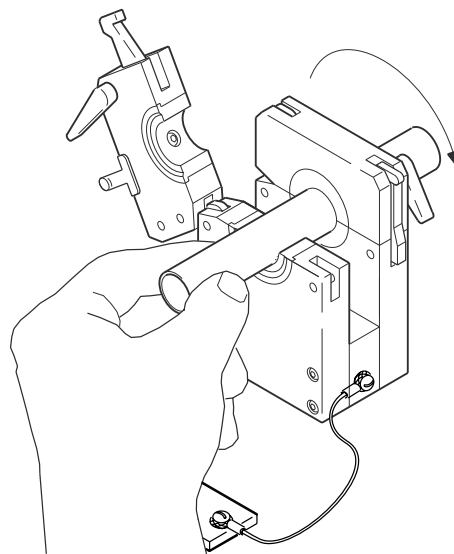

Figure 18 Placing the Tubing
2. Close and lock the side plate that is not adjustable. See Figure 18.